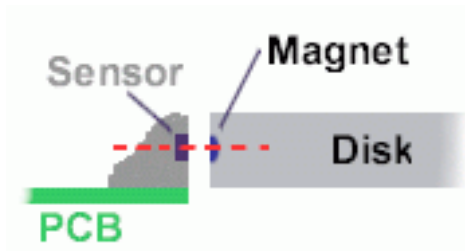

Figure 2 Ensure correct alignment of magnet disk and sensor.
- First bring the pistons 1+4 into TDC position and rotate the disk into the position as shown on the picture (1). The left hall sensor should be between the two magnets in the disk.
- Take care that the magnets in the disk are approximately in the same height as the sensor, see figure 2.